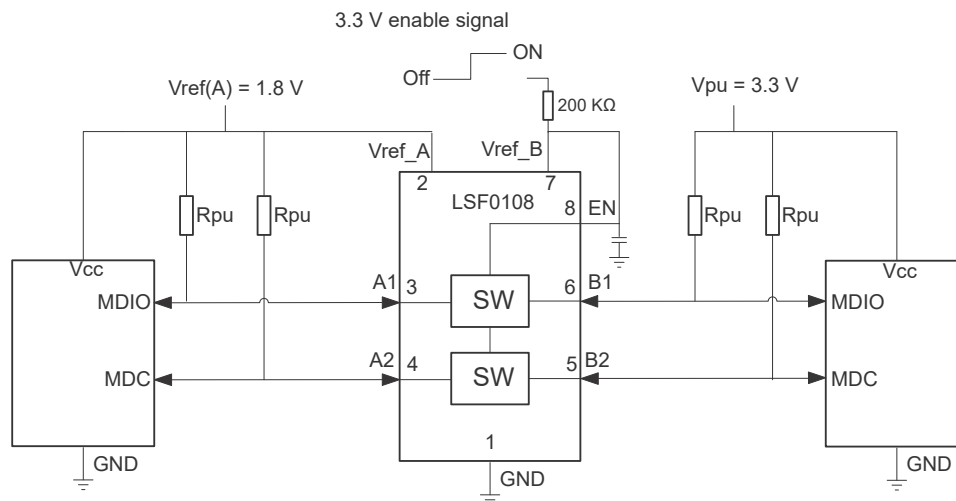

图 9-1. Typical Application Circuit for Open-Drain Translation (MDIO Shown as an Example)
- VCCB/VCCA are not the same as Vref_B or Vref_A: VCCB refers to the B-side supply voltage supplied to the LSF device, while Vref_B refers to the voltage at the Vref_B pin (pin 7 of Figure 9-1.) on the other side of the 200k resistor.
When Vref_B is connected through a 200-kΩ resistor to a 3.3-V Vpu power supply and Vref_A is set 1.8 V, as shown in Figure 9-1, the A1 and A2 channels have a maximum output voltage equal to Vref_A, and the B1 and B2 channels have a maximum output voltage equal to Vpu.